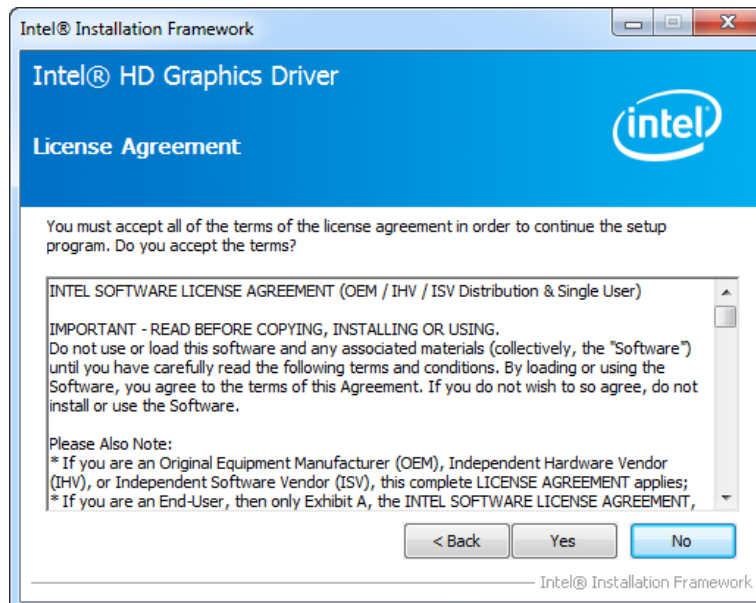

Figure 8-11: Graphics Driver License Agreement
Step 10: The **License Agreement** in **Figure 8-11** appears.